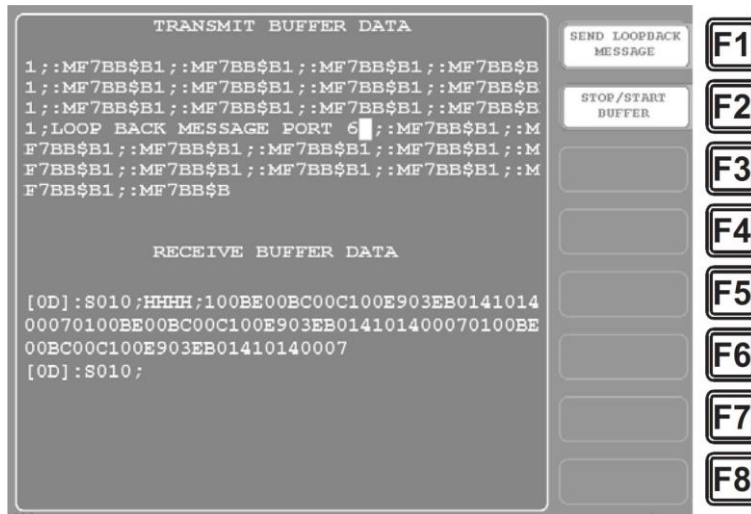

Figure 3-12. Communications Transmit/Receive Screen
4. Select “PORT 2 (Modules).” A screen like the one shown in Figure 3-12 will appear.